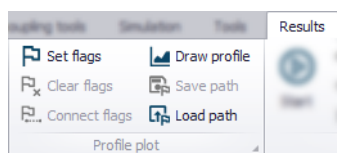

Figure 20.43 Set flags from the Profile Plot toolbox on the Results ribbon
- Set path flags on the result map using the 'Set flags' tool from the Profile Plot toolbox on the Results ribbon (Figure 20.43).